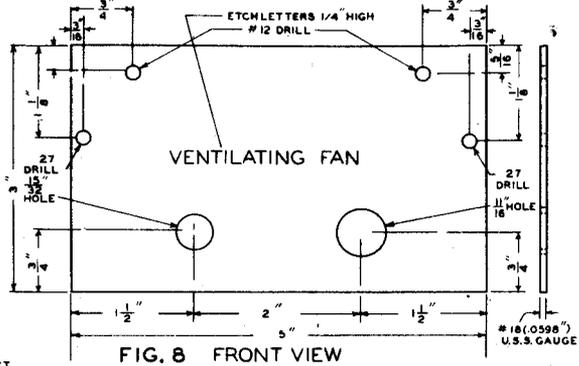

FIG. 8 FRONT VIEW
- (b) Plate of #18 gauge sheet metal, cut and drilled as indicated in figure 8. Bakelite or other insulating board, 1/4" thick, may be substituted.